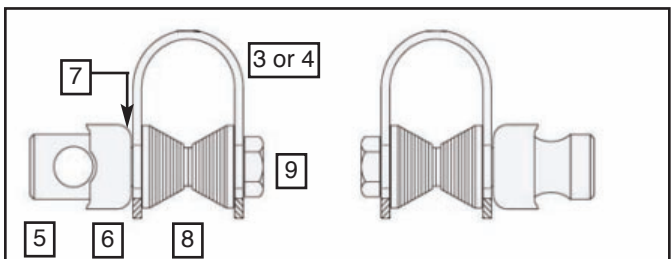

Figure 3a
4. Put an Indented Cup Spacer (6) and an Internal Lock Washer (7) on each of the Eyebolts (5). Slip Eyebolts through the U-Clamps. At the same time, insert two Bevel Washers (8) (bevels facing each other) inside each U-Clamp so that the Eyebolt passes through them. **Figure 3a**
5. Align the Cup Spacer (6) indentations with the "eyes" of the Eyebolts (5). With the U-Clamps aligned evenly on each side of the handlebars, slide the Uprights of the assembled screen through the Eyebolts. **Figure 3a and 3b**
6. Carefully align the screen so that it sits slightly above and not directly on the headlight. Now install and tighten the WhizLok Nuts (9) onto the threaded portion of the Eyebolts. **(9/16" Box Wrench)**